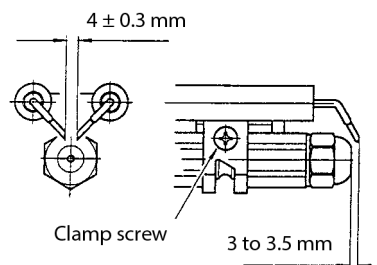

Figure 11-4: Electrode assembly
8. Always check the electrode settings after replacing the nozzle, see Figure 11-4.